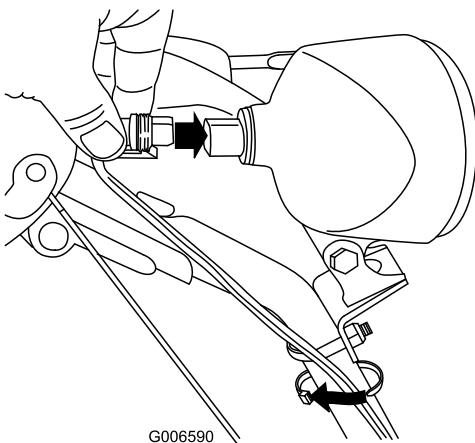

Figure 58
6. Insert the wire connector straight into the back of the headlight until it is securely in place (Figure 58).